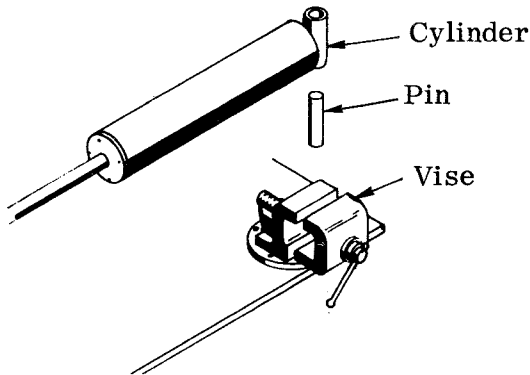
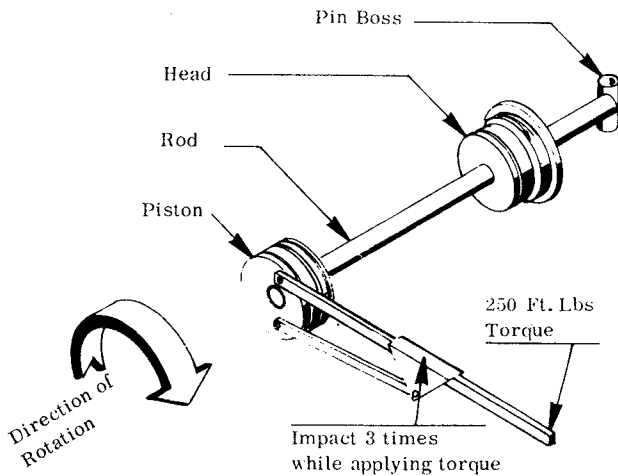

Figure G-1. Securing Cylinder
Figure G-6. Piston/Rod Assembly
3. Place the cylinder on a flat surface near a vise. Slip a pin through the pin boss and clamp the pin in a vise (Figure G-1).
5. Secure the rod pin boss in the same manner as the cylinder pin boss (Figure G-1).
13. Secure the rod as shown in Figure G-1 and screw the piston onto the rod by hand. You should be able to get the piston almost all the way onto the rod before using the spanner wrench.
14. Torque the piston onto the rod at 250 ft. lbs. of torque. Impact the wrench three times with a heavy plastic hammer while maintaining the torque (Figure G-6).
18. Secure the cylinder (Figure G-1) and torque the head in the same manner as the piston (Step 14, Figure G-6).